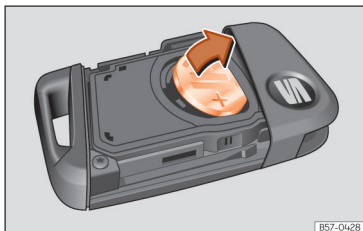

Fig. 50 Vehicle key: removing the battery.
- Lever the battery out of its compartment >>> Fig. 50.
- Fit a new button battery into the compartment >>> ④.